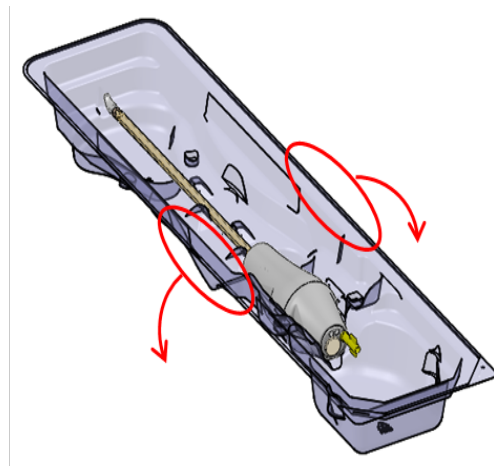

Figure 19: Releasing the UA from the packaging tray
5. **MRI Technologist**: While holding the UA packaging tray by the long edges of its perimeter, flex the tray to release the UA from its snap features (*Figure 19*).